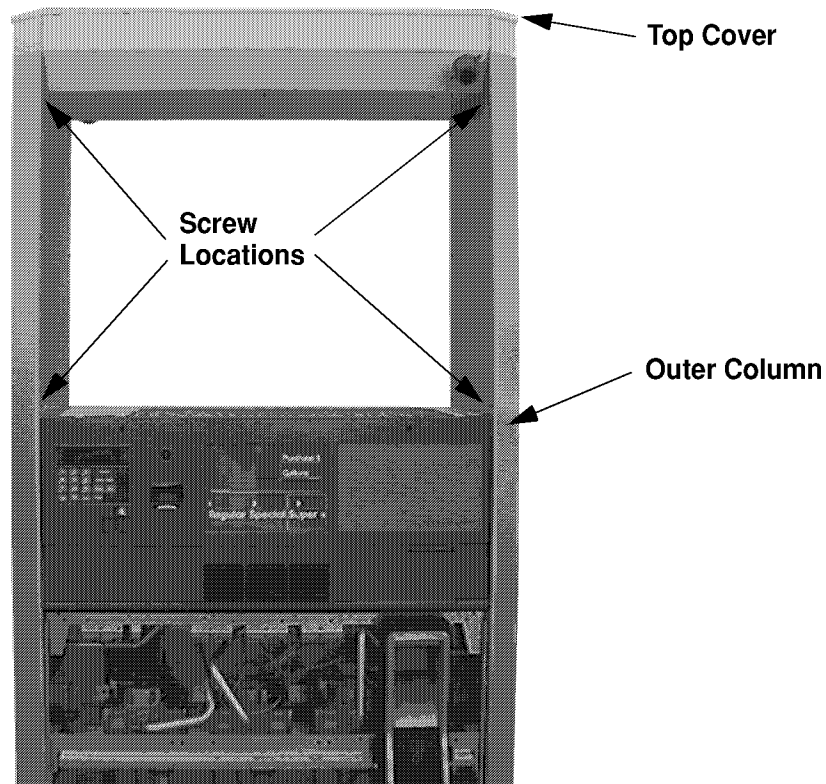

Figure 2-1 Outer Column Screw Locations
6. Remove the top cover and both outer columns and save the hardware for later use. Refer to Figure 2-1.